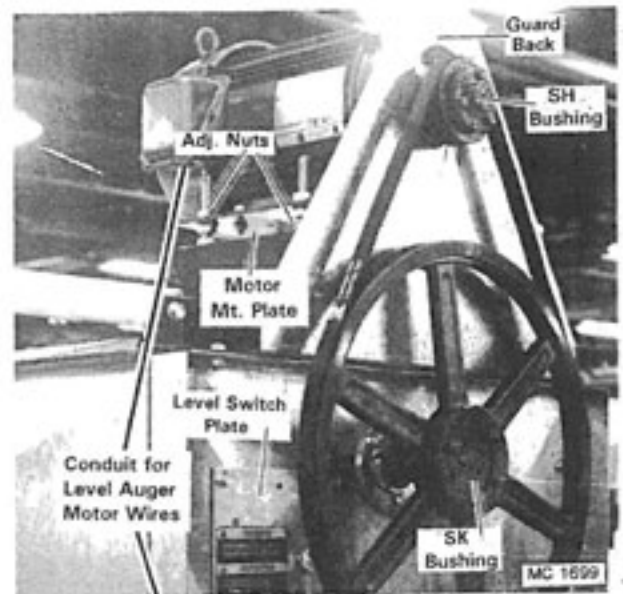

Figure 30
1. Adjust the belt tension by loosening the locknuts and raising the motor mount plate evenly with the four adjusting nuts, then tighten the locknuts, see Figure 30